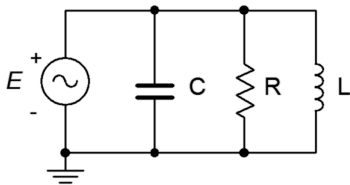

Figure 3.22
39. Determine a value for C such $|X_C| = |X_L|$ for the circuit shown in Figure 3.22. The source frequency is 1 kHz, $R = 200\ \Omega$ and $L = 50\ \text{mH}$.
42. Determine a value for C such that the impedance angle for the circuit shown in Figure 3.22 is purely resistive (0 degrees). The source frequency is 1 kHz, $R = 200\ \Omega$ and $L = 50\text{ mH}$.